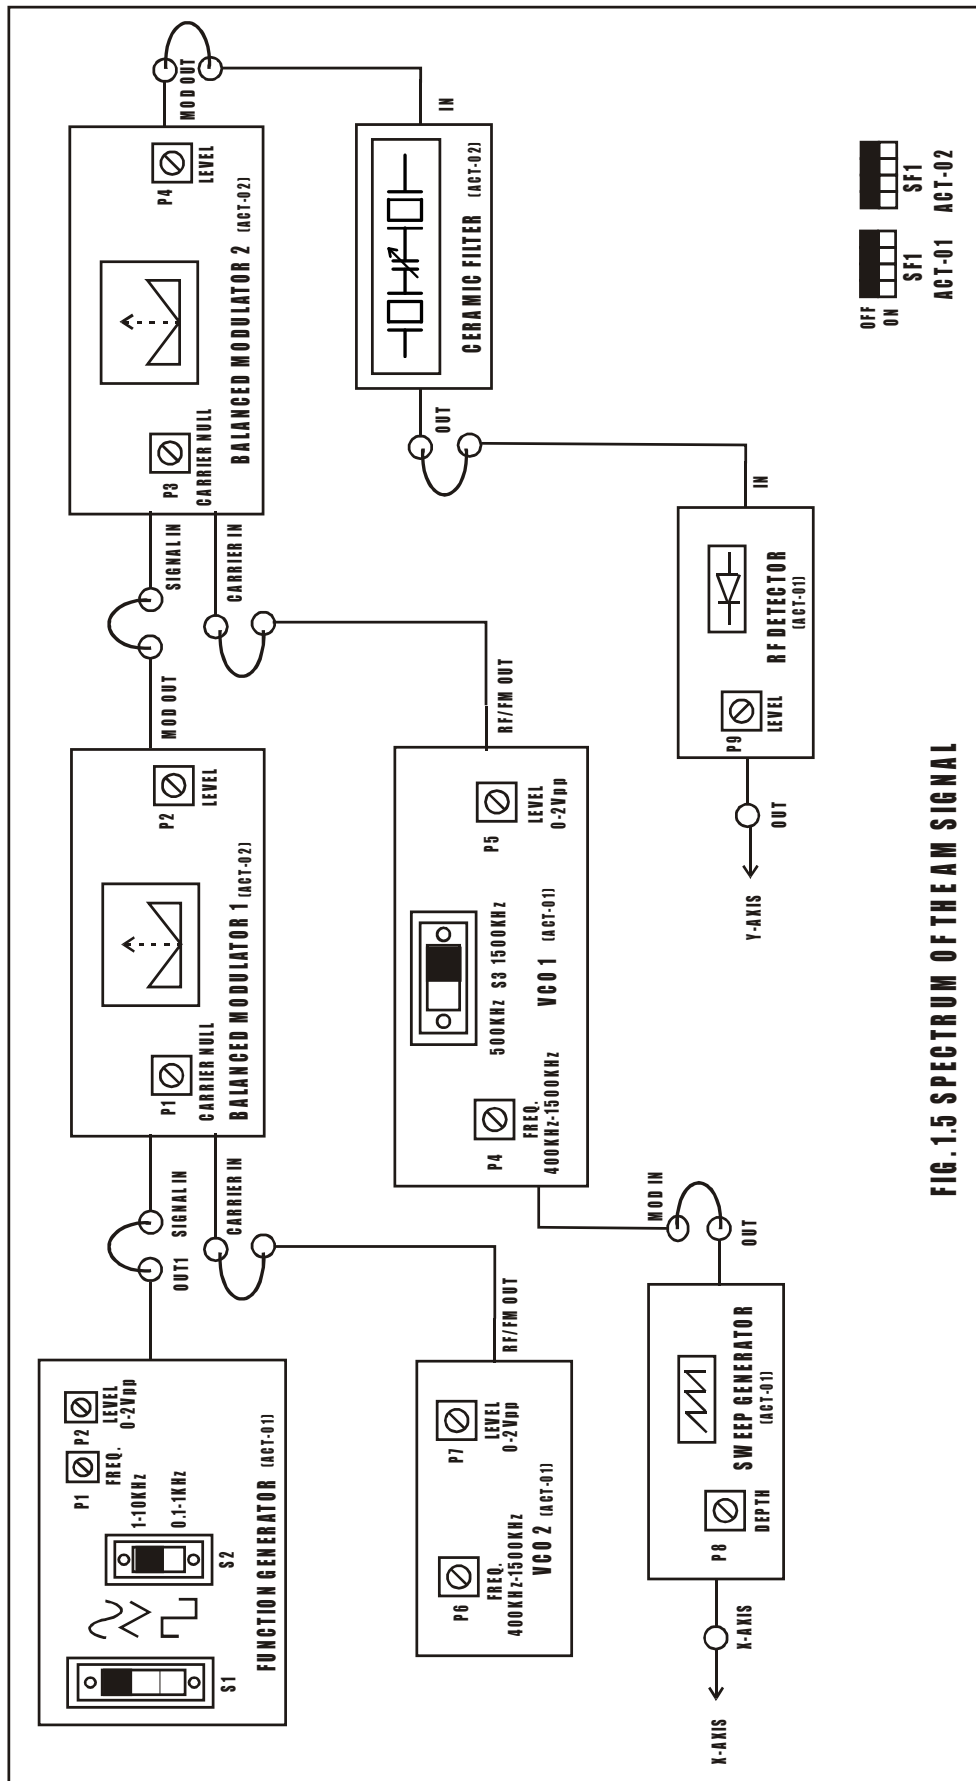

FIG. 1.5 SPECTRUM OF THE AM SIGNAL
- Refer to the fig.1.5 & Carry out the following connections and settings.